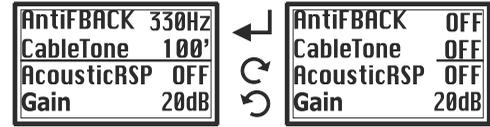

Fig. 13
(E) CableTone function, Fig. 13: